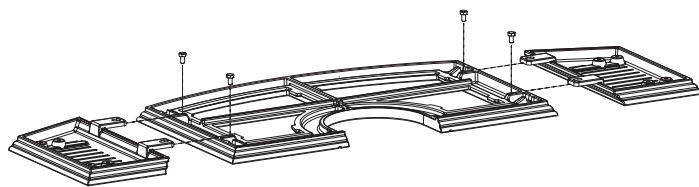

Figure 19
3. Remove (4) 1/4-20 hex head bolts from the outer edges of cast iron top.
4. Place left and right side shelves in place shown in Figure 19.
5. Replace (4) 1/4-20 hex head bolts to attach side shelves to cast iron top, be sure shelf is tight to casting top before fully tightening bolts.
6. Remove (8) 1/4-20 hex head bolts from side shelves.
**Note:** Due to inherent properties of the casting process, non-combustible shims may be required to level accessory side shelves to the casting top. These shims are provided in the form of washers to be used on either side of the bolts. See Figure 19. If accessory shelf angles downward, toward the floor, washer(s) will need to be added to the center side of the bolt. Conversely, if the accessory side shelf angles upward, toward the ceiling, washer(s) will need to be added to the outside of the top casting side of the bolt. See Figure 22.